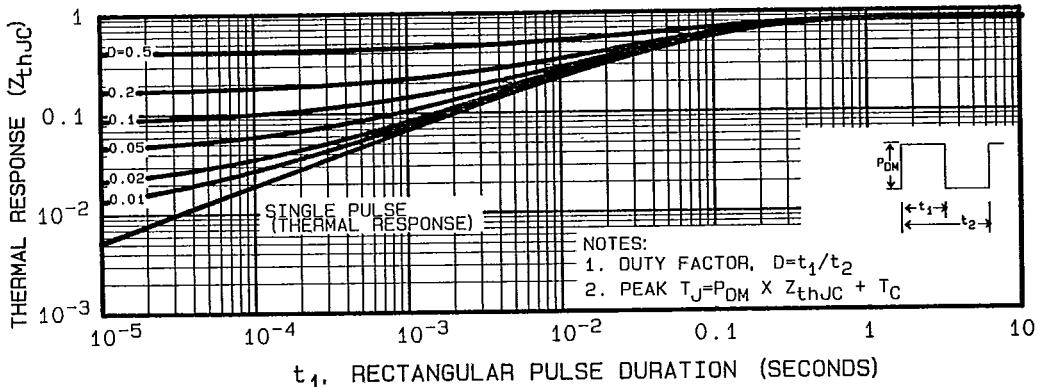

Fig. 5 – Maximum Effective Transient Thermal Impedance, Junction-to-Case Vs. Pulse Duration
① TJ = 25°C to 150°C
② Repetitive Rating: Pulse width limited by max. junction temperature. See Transient Thermal Impedance Curve (Fig. 5).